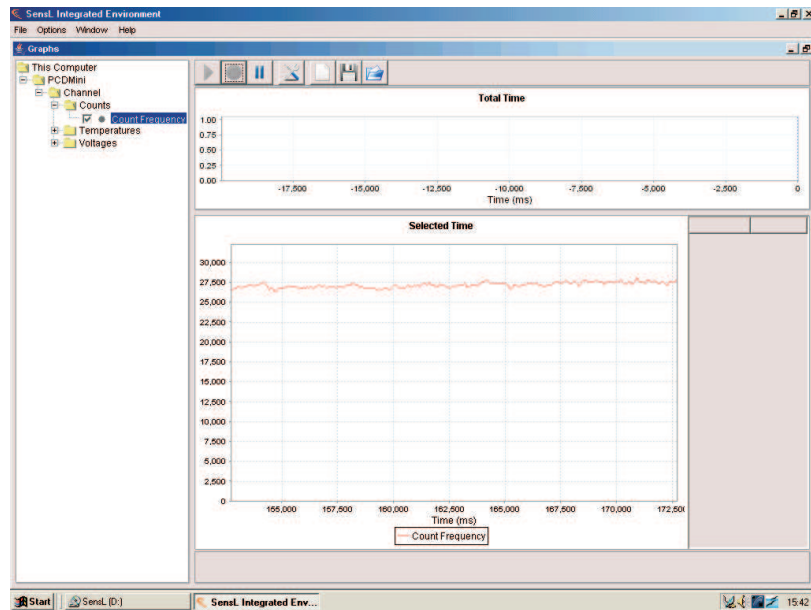

Figure 3: 'Graph' window of the photon counter.
- Navigate to 'Window' on the toolbar and open the 'Graphs' window by selecting 'Graphs'. Select 'This Computer', 'PCDMini', 'Channel', 'Counts' and 'Count Frequency'. Then press the 'Play' icon to observe the count rate. Fig. 3 shows the 'Graphs' window displaying a count rate of 27,500 Hz or cps (counts per second).